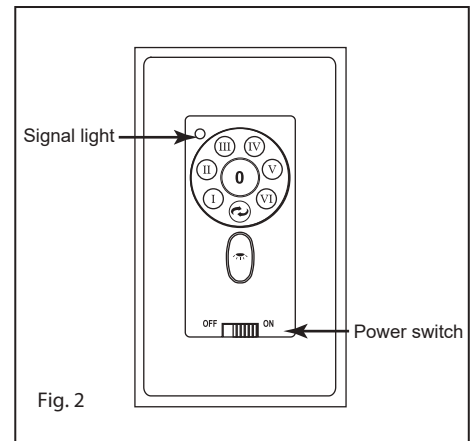

Fig. 2
- 3 Loosen the two security set screws and remove the downrod pin and retaining clip from the coupling on top of the motor assembly. (Fig. 2)
- 4 Install the wall transmitter on the existing wall outlet box using the screws provided. Attached the wall plate with the mounting screws to finish the installation. (Fig. 2)
- 7 Signal light (Fig. 2)